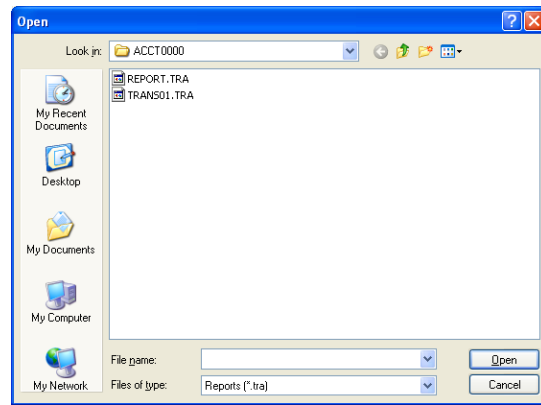

Figure 58
- To view other transaction files, click the VIEW FILE button. The Open file window (Fig 58) will appear on the transaction screen. Select the transaction file that you want to view by clicking the file then clicking OK. The transactions for the file that you selected will appear on your screen. Transaction files have a .TRA extension. *NOTE: If you want to view all transactions files, click the GENERATE REPORT button. When the report generator window appears, simply click the OK button without entering any report parameters. This will cause all transaction files to be displayed in chronological order.*